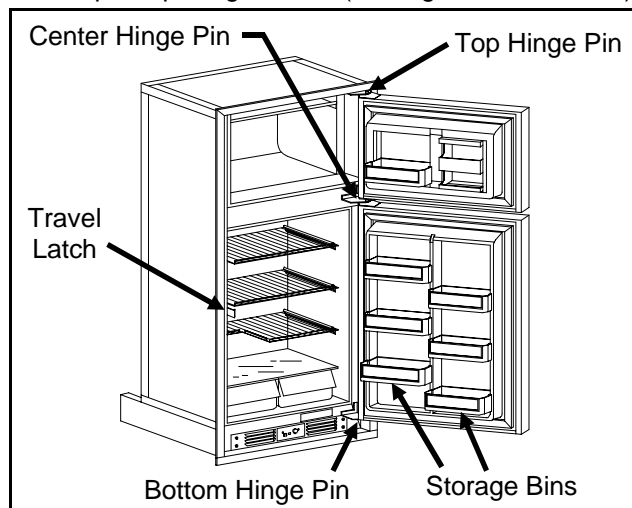

Figure 9
3. Remove all storage bins from the doors by lifting up and pulling outward (see Figure 9 for location).